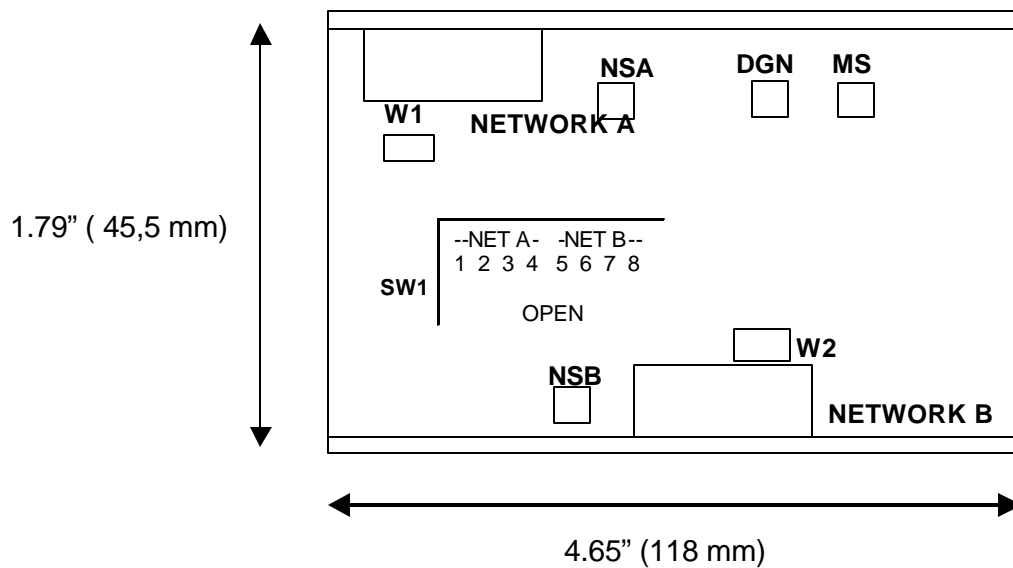

Figure 5-1 WRC-CANX-DIN Series 3 Dimensional Drawing
The WRC-CANX-XX Multiplexer has four (4) LED's that provide visual status information to the user about the product and the DeviceNet network. See Figure 5-1, Table 5-2, Table 5-3 and Table 5-4.